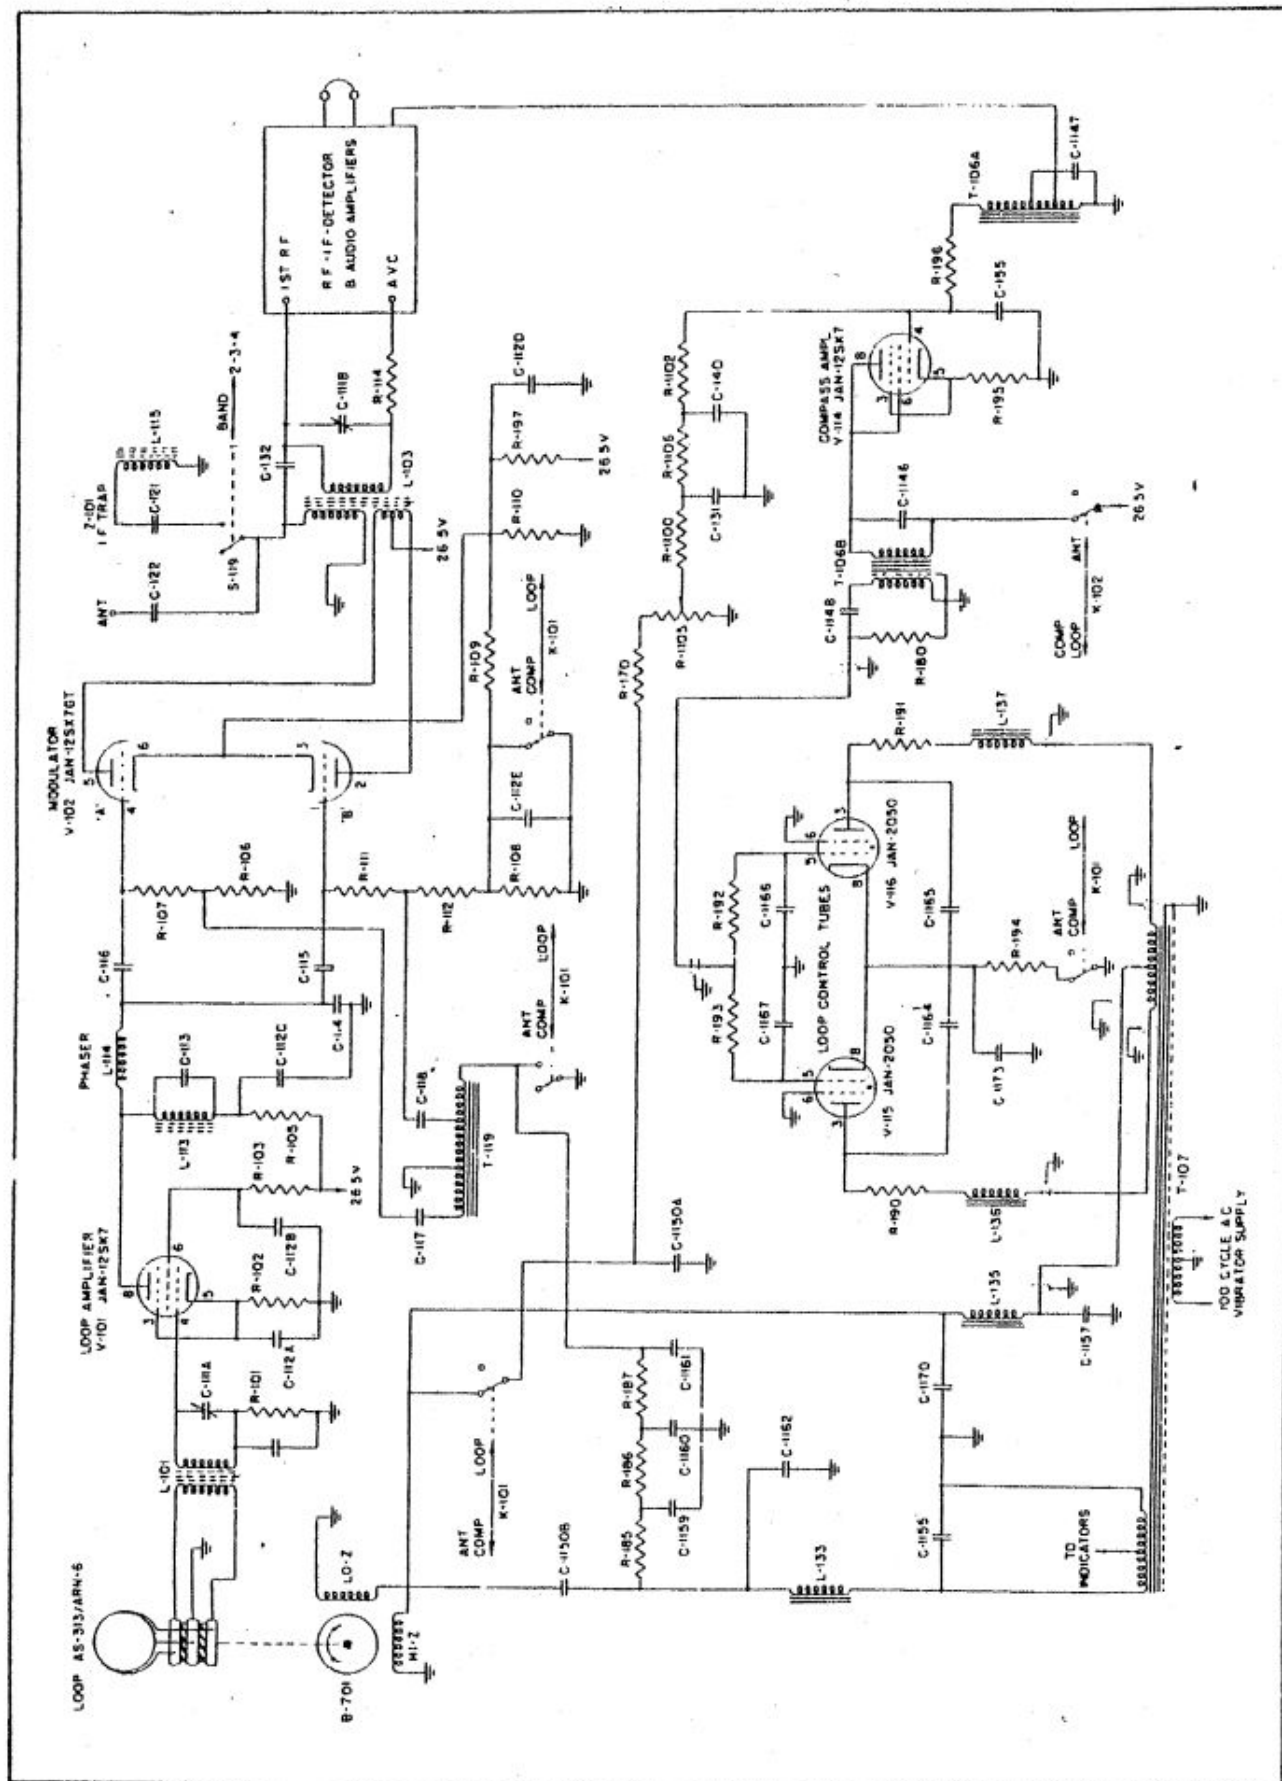

Figure 4-5. Functional Diagram—Compass and Loop Control Circuits of Radio Compass Unit R-101/ARN-6
(3) ANTENNA OPERATION. (See figures 4-5, 4-6, 4-7, and 4-8.)
(4) LOOP OPERATION. (See figures 4-5, 4-6, 4-7, and 4-8.)
(1) Since the receiver, Radio Compass Unit R-101/ARN-6 or R-101/ARN-6, is primarily designed for the automatic control of the loop, this function is fully described in paragraph 2.b., this section. Figure 4-5 or 4-6 is recommended for study, in preference to the complete schematic, since all bandswitching is omitted and the ordinary RF and IF circuits indicated only as a block.
(3) In order to provide a suitable control for "hunting" of the loop—that is, small oscillations about its null point when operating as an automatic radio compass—a negative feedback system is provided. Refer again to figure 4-5. The "Hi-Z" winding of B-701 is the winding controlled by the thyatrons. The sig-